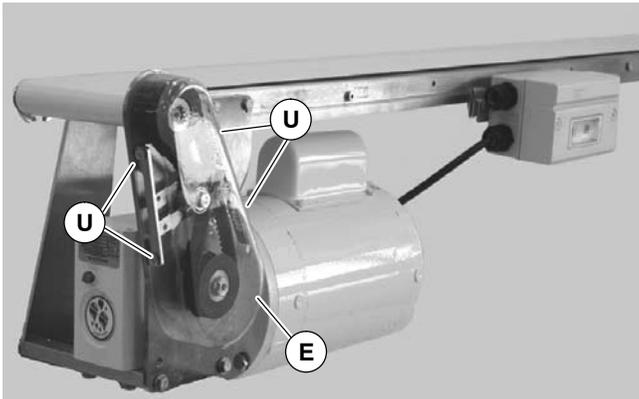

Figure 16
1. Loosen four (4) screws (U of Figure 16) and remove cover (E).
**NOTE:** Do not over-tighten screws (U of Figure 16).
6. Attach cover (E of Figure 16) and tighten four (4) screws (U) to 35 in-lb (4 Nm).